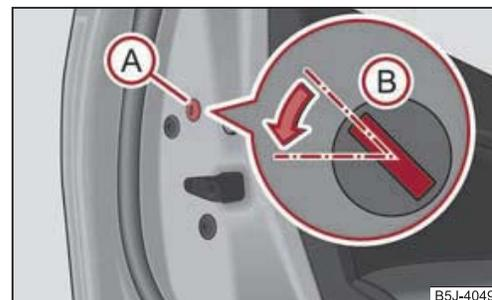

Fig. 27 Emergency locking of the door
- Remove the panel **A** ⇒ fig. 27.